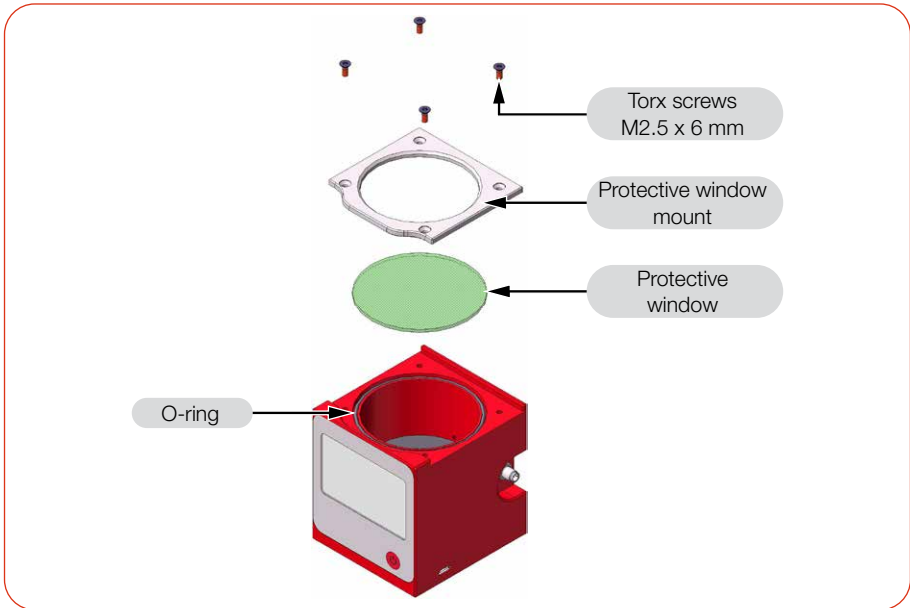

Fig. 12.1: Exchanging the protective window
5. Place the device as shown in Fig. 12.1 on page 60 and carefully remove the protective window mount upwards.
9. Place the protective window mount according to Fig. 12.1 on page 60.